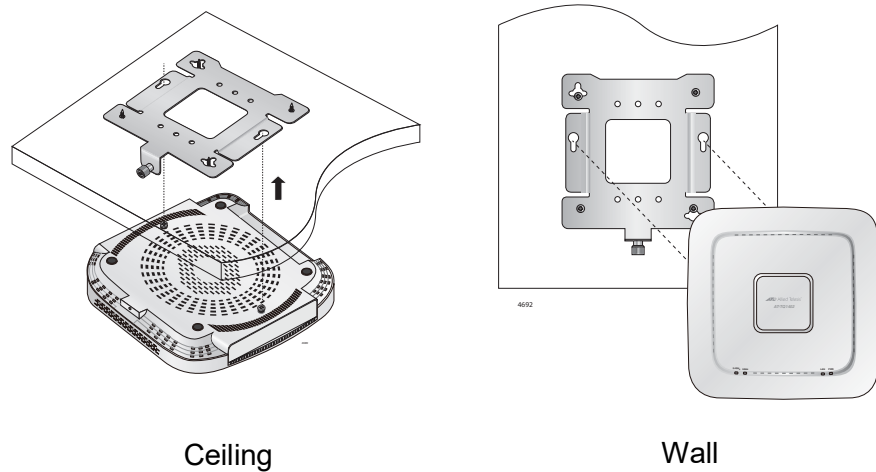

Figure 15. Align/Insert Access Point into Mounting Bracket
1. Align and insert the two access point chassis screws into the keyhole slots of the mounting bracket. Refer to Figure 15.